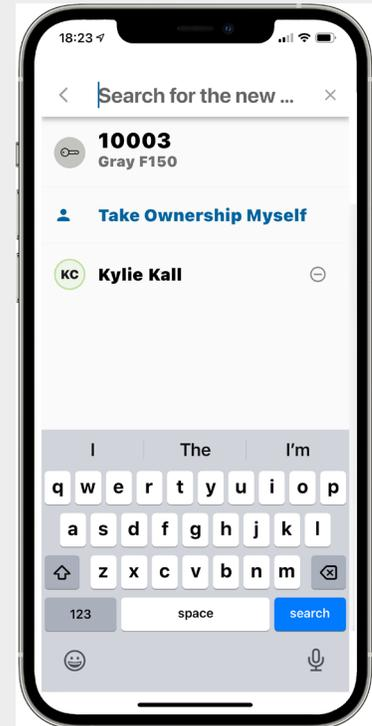

Fig. 126 – Transfer screen – Search for new holder
7. Alternately, you may choose to transfer ownership of the asset to yourself by selecting **Take Ownership Myself**, as shown in Fig. 126.